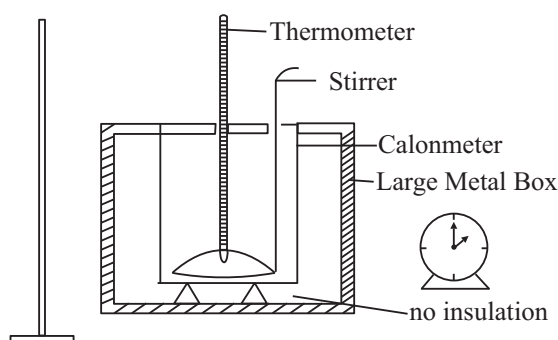

Fig. 6.1: Newton's law apparatus
- (iv) Set up the apparatus as in Fig. 6.1.